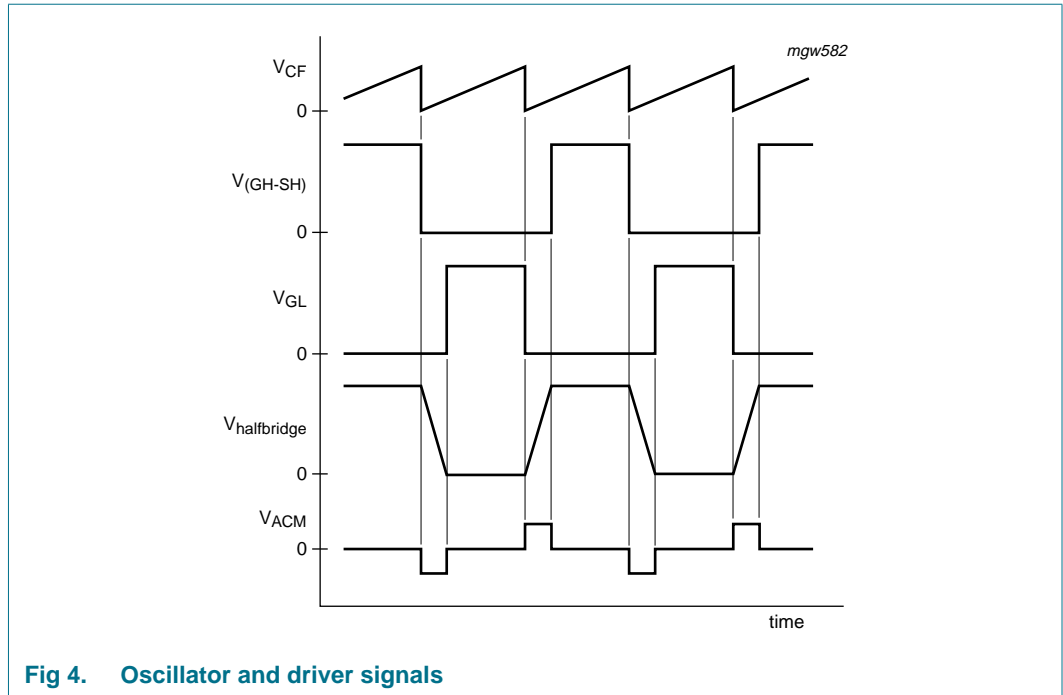

Fig 4. Oscillator and driver signals
The internal oscillator is a Voltage Controlled Oscillator (VCO) circuit which generates a sawtooth waveform between the $V_{CF(high)}$ level and 0 V. The frequency of the sawtooth is determined by capacitor C_{CF} , resistor R_{IREF} , and the voltage at pin CSW. The minimum and maximum switching frequencies are determined by R_{IREF} and C_{CF} ; their ratio is internally fixed. The sawtooth frequency is twice the half bridge frequency. The UBA2014 brings the transistors TR1 and TR2 into conduction alternately with a duty cycle of approximately 50 %. An overview of the oscillator signal and driver signals is illustrated in Figure 4. The oscillator starts oscillating at f_{max} . During the first switching cycle the Low-Side (LS) transistor is switched on. The first conducting time is made extra long to enable the bootstrap capacitor to charge.
The non-overlap time is realized with an Adaptive Non-overlap circuit (ANT). By using an adaptive non-overlap circuit, the application can determine the duration of the non-overlap time and make it optimum for each frequency; see Figure 4. The non-overlap time is determined by the slope of the half bridge voltage, and is detected by the signal across resistor R16 which is connected directly to pin ACM. The minimum non-overlap time is internally fixed. The maximum non-overlap time is internally fixed at approximately 25 % of the bridge period time. An internal filter of 30 ns is included at the ACM pin to increase the noise immunity.